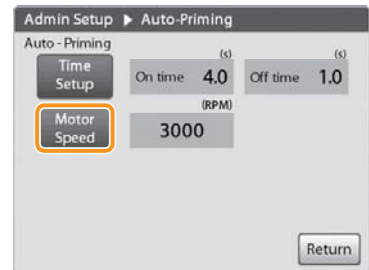

Figure 3-79
2. Tap [Motor Speed]. (Figure 3-79)